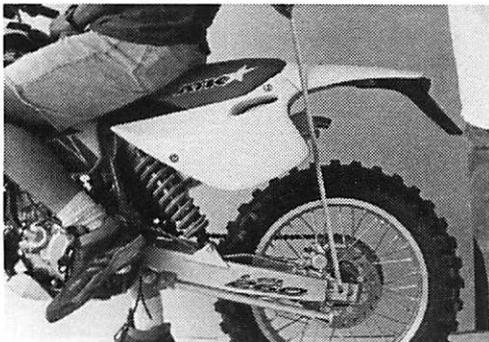

Figure 5.2
**Race Sag: Standard 95 mm (Figure 5.2)**
Remove the motorcycle from the stand and place on a flat surface. It is important to set the race sag wearing all of the appropriate riding gear. Sit on the seat in a normal riding position and bounce on the motorcycle a few times to allow the motorcycle to settle to its natural position. Use the motorcycle stand to balance yourself vertically. Remain seated in your normal riding position and have an assistant remeasure the distance between the axle and top measuring point (Figure 5.2). The difference between this value and the unweighted distance is the Race sag.